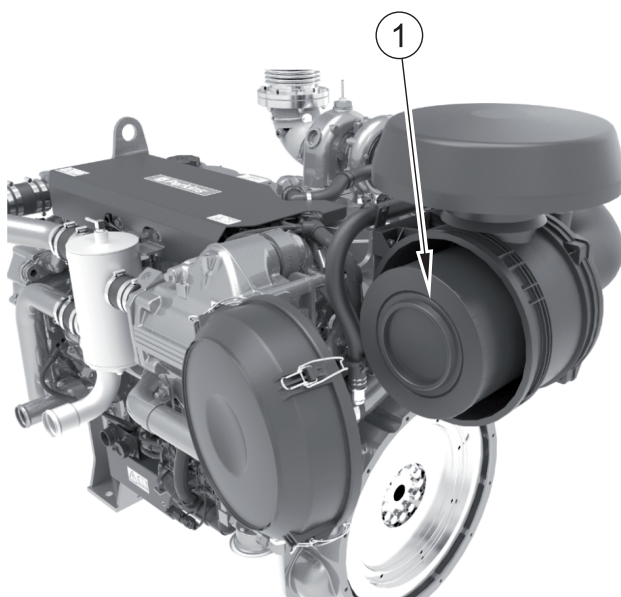

Figure 37
1. Release the 4 catches and lift the cover (figure 37 item 1) to one side.
2. Remove the filter element (item 2).